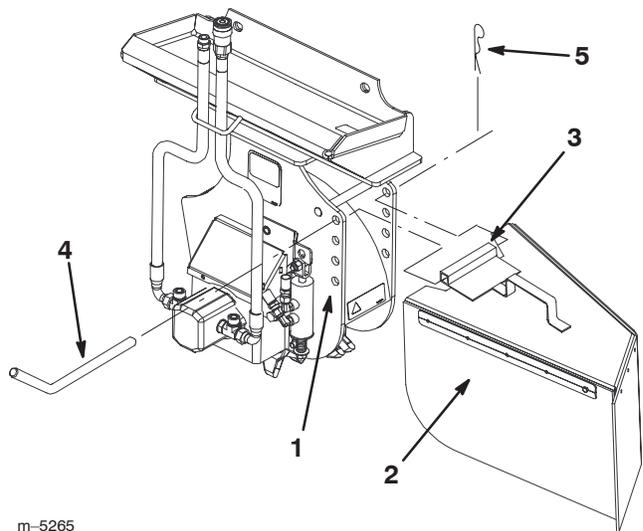

Figure 6
The stump grinder has 4 sets of mounting holes for positioning the chip guard (Fig. 6). Move the guard up (upper holes) when you are grinding close to the ground and down (lower holes) when you are chipping tall stumps. Install the chip guard as follows:
1. Position the mounting tube on the guard between two holes on the grinder (Fig. 6).
2. Slide the guard pin through the holes in the grinder and the mounting tube (Fig. 6).
3. Secure the pin with a hairpin cotter (Fig. 6).